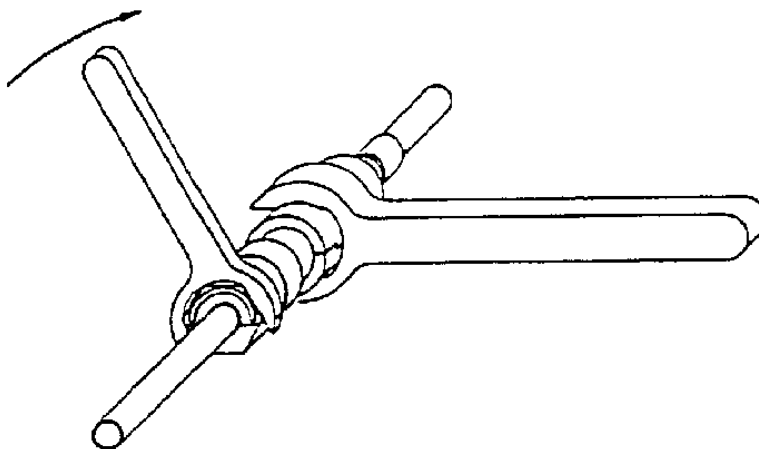
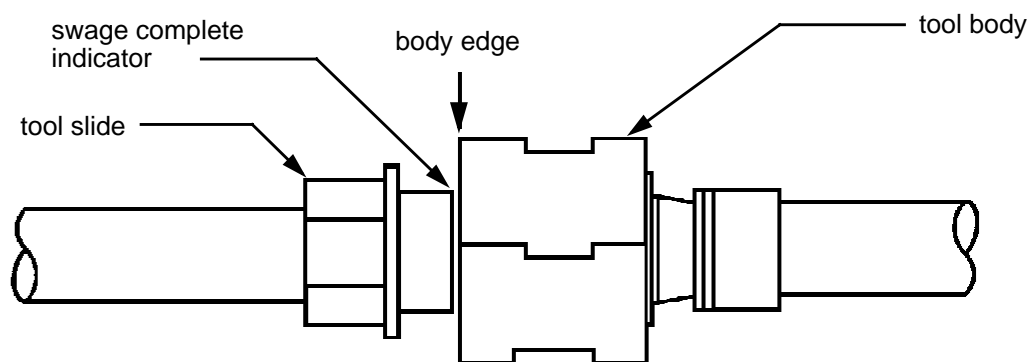

Figure 5 - Swaging Process using the Quickfit Mini-Tool
Figure 6 - Swage Complete Indicator
- Step 4. Using the appropriate open end wrenches from Table 1, hold the tool body stationary and screw the slide into the body until the white swage complete indicator touches the tool body (see Figure 5 and Figure 6).